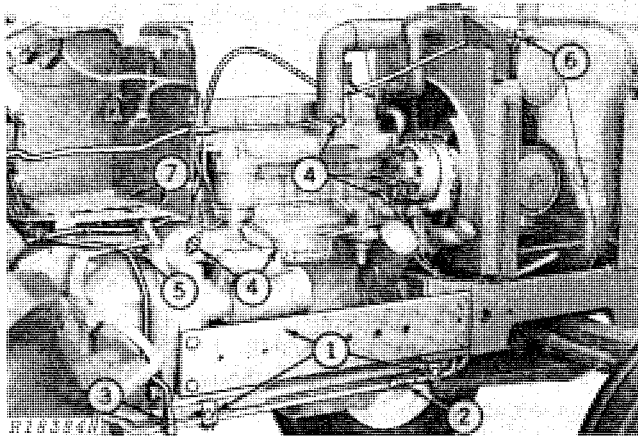

Fig. 1-Right-Hand Separation Procedures
1. Remove clamps securing hydraulic oil pipes (Fig. 1). Remove tool box and side frames (if used).